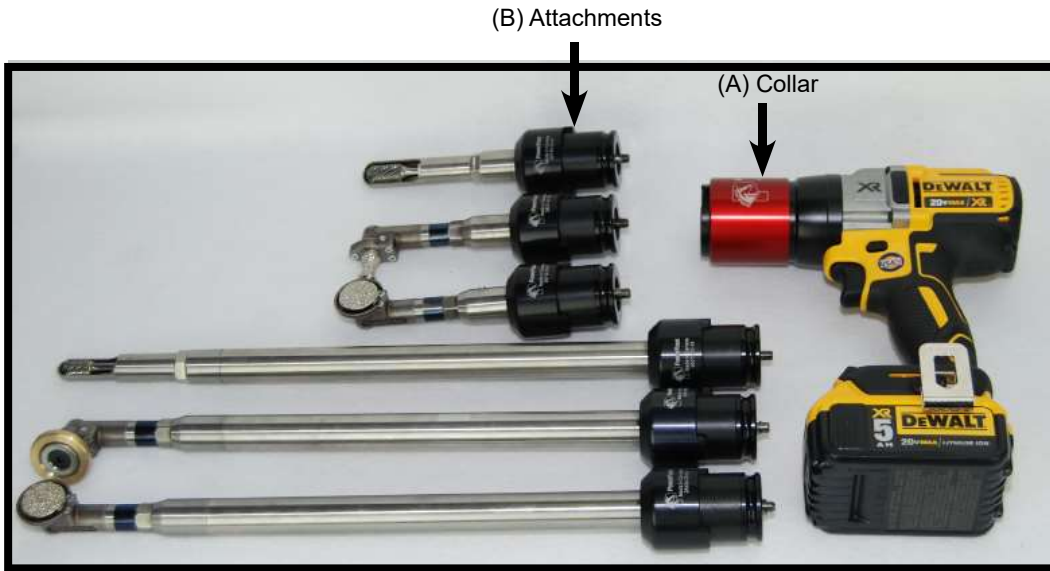

Fig. 2
Fig. 2 The quick connect system allows several floating attachments (B) to become connected to the 20 V motor or the Electric DeWalt Motor by pushing them into the collar (A) (red). Each of the 4 attachments connects to the motor in the same fashion.